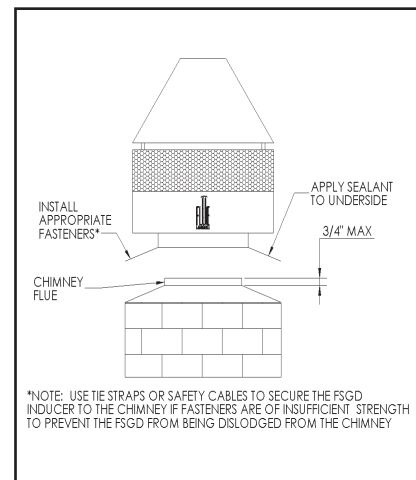

FIG 1
1. The FSGD Series Chimney Top Inducer unit is designed to mount on top of the chimney. The damper housing will allow the flue to mount inside the damper section if the flue tile or vent pipe is not higher than  $\frac{3}{4}$ " above the chimney cap (see Figure 1 for illustration of mounting clearances). The other installation consideration is whether the Chimney Top Inducer is to vent a single flue or double flue fireplace. The FSGD Series Chimney top Inducer system is not designed to vent multiple fireplaces, so if a multiple flue vents more than one fireplace, separate inducers must be used on each fireplace flues.
3. Installing the Chimney Top Inducer system over a single flue, if the flue does not extend over  $\frac{3}{4}$ " above the chimney cap (see Figure 1):